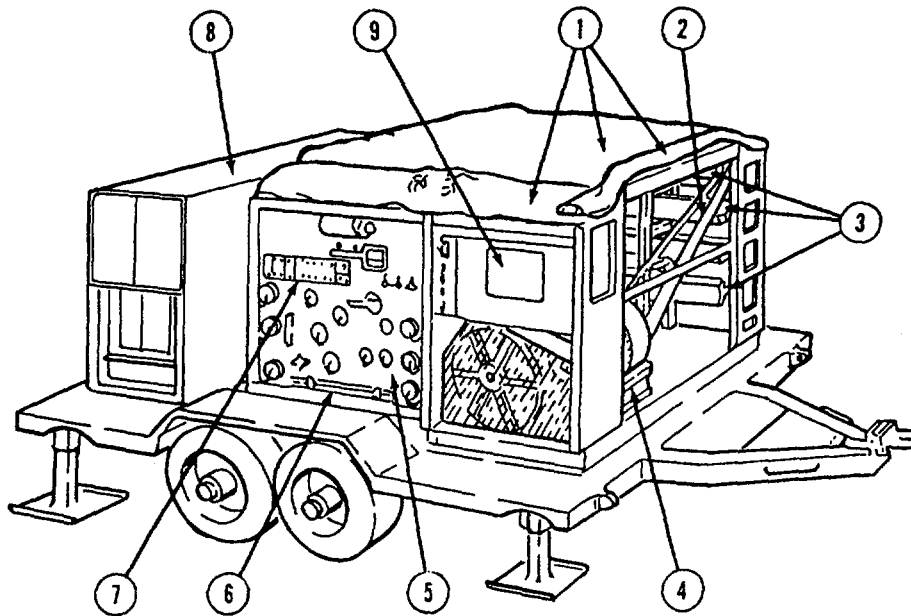

FIGURE 1-9. CONTROL PANEL SIDE OF ROWPU
c. External Components. Figure 1-9 identifies the following parts:
- CANVAS COVERS (1). Protect unit from weather. Rolled up and strapped during normal operation.
- CROSS BRACES (2). Give strength to ROWPU frame during shipment. Can be removed to get at equipment.
- R.O. PRESSURE VESSELS (3). Four vessels which house eight reverse osmosis elements that reduce total dissolved solids from filtered water to produce drinking water.
- R.O. PUMP (4). Applies high pressure to raw filtered water in R.O. pressure vessels.
- CONTROL PANEL (5). Panel with meters, gauges, switches, valves, and hose connections.
- GROUND ROD (6). Driven into ground and attached to ROWPU to keep operators from getting electric shocks from power source or static electricity.
- CONTROL BOX (7). Panel with switches to control all pumping and panel lighting.
- GENERATOR SET (8). (ARMY) Provides electricity needed to operate ROWPU.
- JUNCTION BOX (9). Contains circuit breakers, overload heaters, motor starters, relays, etc.